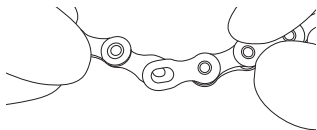

Fig.14
- Remove the C-Link™ from the inner and outer sides (Fig. 14).